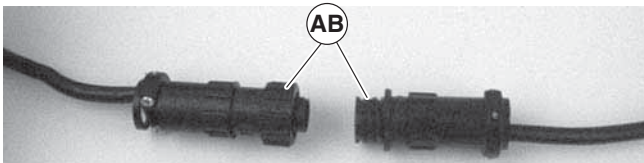

Figure 17
3. For DC variable speed motor, unplug motor cord at disconnect (Figure 17, item AB).